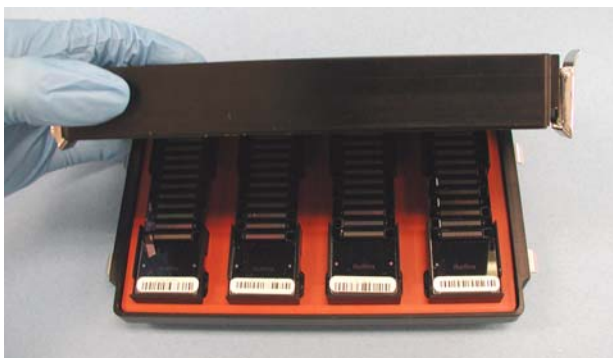

Figure 41 Seating Lid onto Hyb Chamber
4. Place the back side of lid onto the Hyb Chamber and then slowly bring down the front end to avoid dislodging the Hyb Chamber inserts (Figure 41).